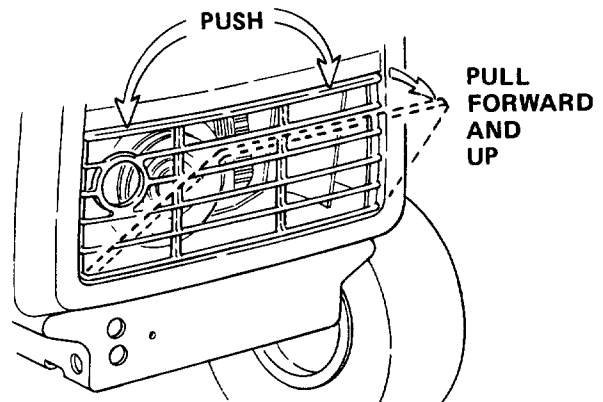

Figure 18
9. Make certain that the backside of the grille insert is clean and unobstructed. Push down on the top of the grille insert and pull forward as shown in Figure 18. Lift the grille insert up removing the tabs from the bottom of the grille housing. Remove by hand any accumulated grass and debris.